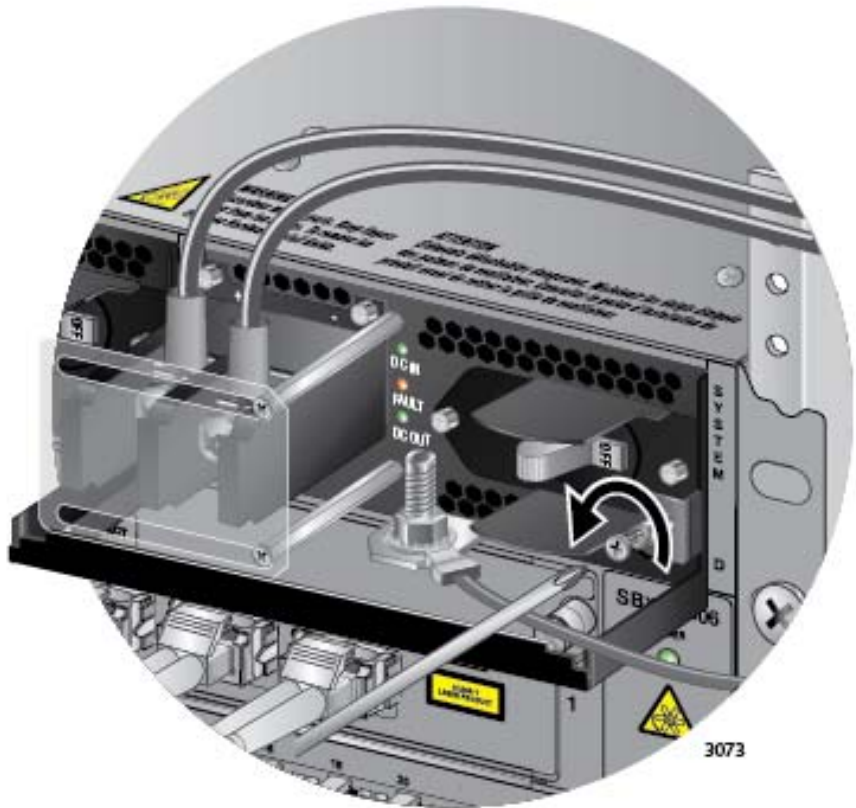

Figure 152. Loosening the Screw on the Locking Handle
3. Use a #2 screwdriver to loosen the screw on the locking handle. Refer to Figure 152 on page 237.